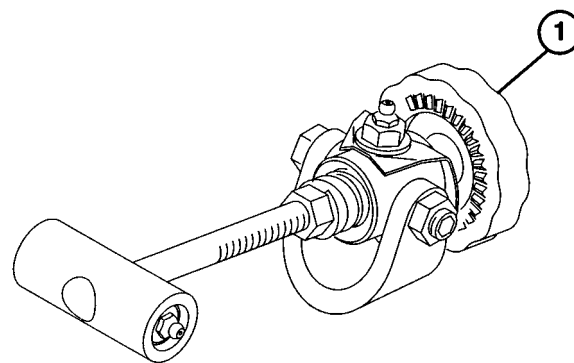
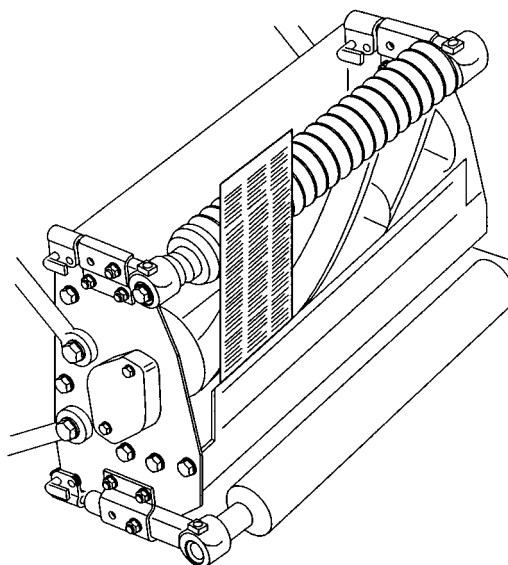

Figure 2
Figure 3
ADJUST THE BEDKNIFE PARALLEL TO THE REEL (Fig. 2–3)
1. Make sure reel contact is removed by turning the bedknife adjustment knob counterclockwise (Fig. 2). Tip the cutting unit to gain access to the reel and bedknife (Fig. 3).